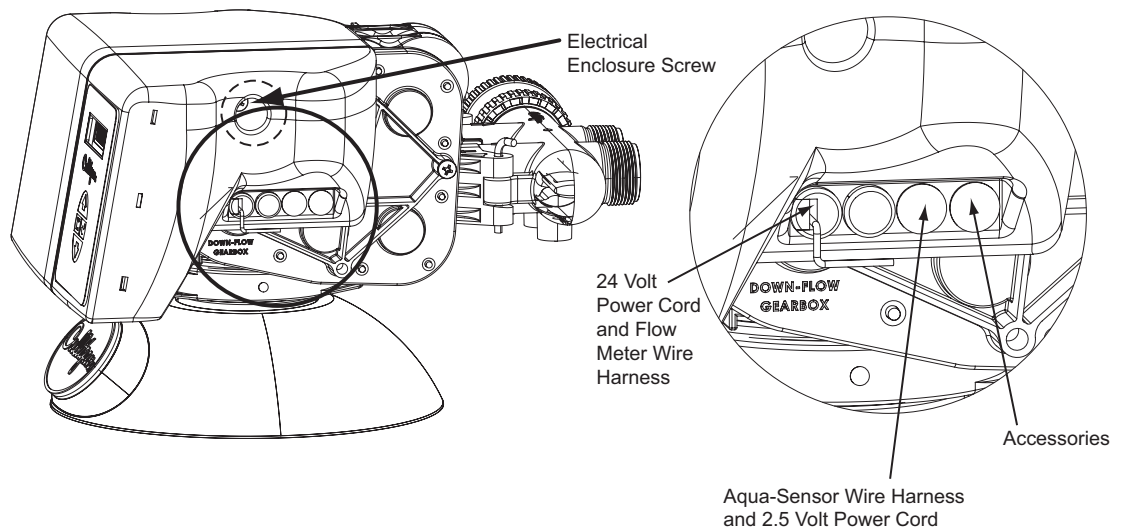
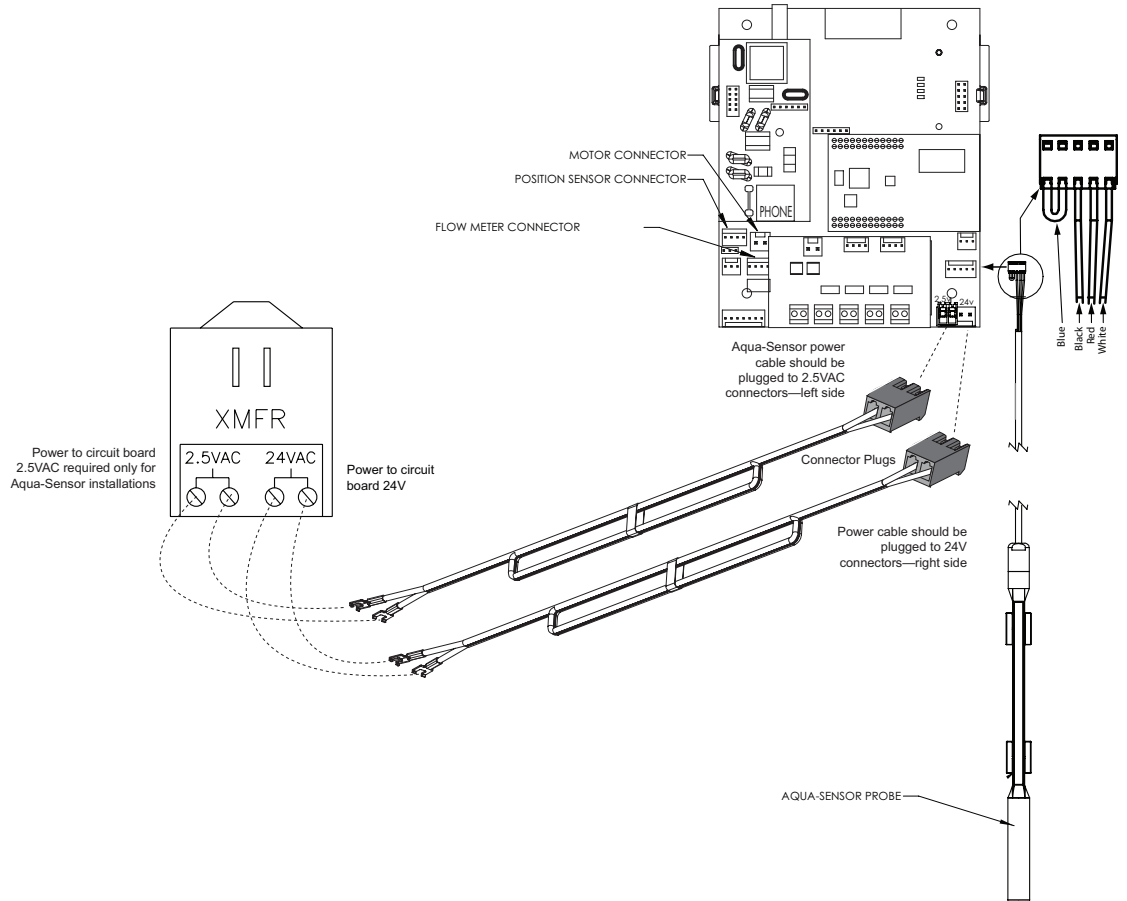

Figure 19. Circuit board connections.
Figure 22. 2.5 VAC Aqua-Sensor® power connection.
The 24 Volt power supply and flow meter wire harness is already connected to the circuit board. If no other circuit board connections are required proceed to the First Time Setup. Refer to the instructions below and Figure 19 to Figure 22 for connecting the Aqua-Sensor probe wire harness to the circuit board.
1. Remove the electrical enclosure from the control valve. First remove the electrical enclosure screw and then gently remove the enclosure from the control. Refer to Figure 19 and below instructions.
7. Insert the Aqua-Sensor 2.5 VAC power cord through the third hole on the enclosure. Insert the Aqua-Sensor sensor probe wire harness through the fourth hole on the enclosure. See Figure 19.
8. Connect Aqua-Sensor probe wire harness to the circuit board. The Aqua-Sensor probe terminal is labeled "Aqua-Sensor." See Figure 22.
- d. Connect the other end of the power cord, with the spade terminals, to the two 2.5 VAC terminals on the transformer. See Figure 22.